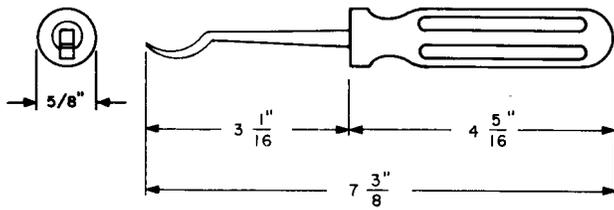

Fig. 3—118 Adjuster Tool
2.03 118: The 118 tool (Fig. 3) is a spring adjuster used to adjust the ring spring on the 92- and 292-type jacks.